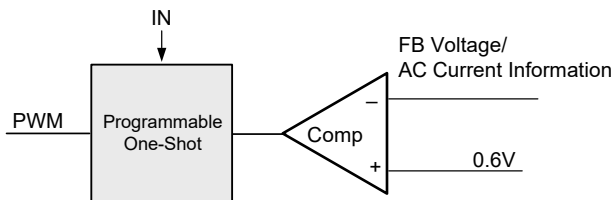

Figure 3. Simplified Control Schematic of AOZ2261NQi-12
The simplified control schematic is shown in Figure. 3. The high-side switch on-time is determined solely by a one-shot whose pulse width can be programmed by one external resistor and is inversely proportional to input voltage (IN). The one-shot is triggered when the internal 0.6V is higher than the combined information of FB voltage and the AC current information of inductor, which is processed and obtained through the sensed lower-side MOSFET current once it turns-on. The added AC current information can help the stability of constant-on time control even with pure ceramic output capacitors, which have very low ESR. The AC current information has no DC offset, which does not cause offset with output load change, which is fundamentally different from other V² constant-on time control schemes.